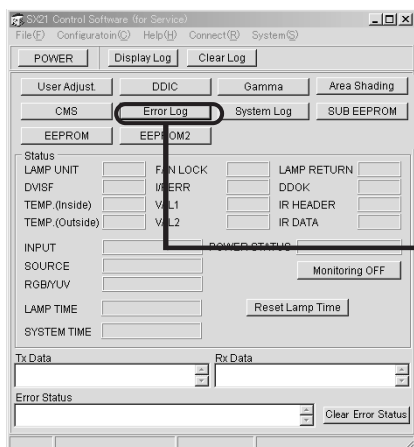

Fig.1 Start screen (main menu)
- (1) Install the software in a personal computer and connect by RS-232C IN terminal (use cross cable).
- (2) Set the projector to stand-by mode.
- (3) Start the setting and adjustment software. The main menu shown in Fig.1 appears.